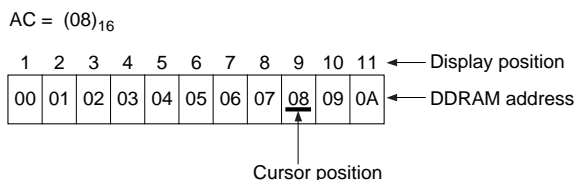

Figure 9 Cursor/Blink Display Example
For example (Figure 9), when the address counter is (08)H, a cursor is displayed at a position corresponding to DDRAM address (08)H.